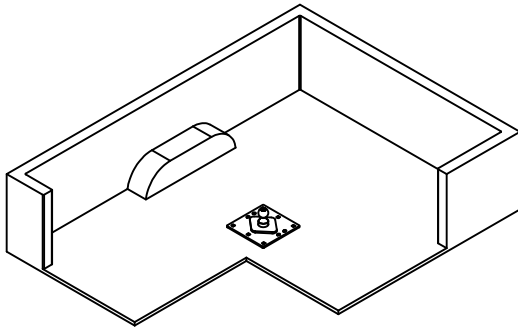

FIGURE 1
1. The hitch must be centered between the sides of the truck bed about 2"- 6" in front of the rear axle for proper weight distribution (Figure 1).